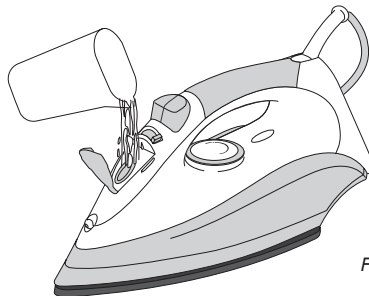

Figure 2
4. Dry the exterior of the iron with a dry cloth (see Figure 2).